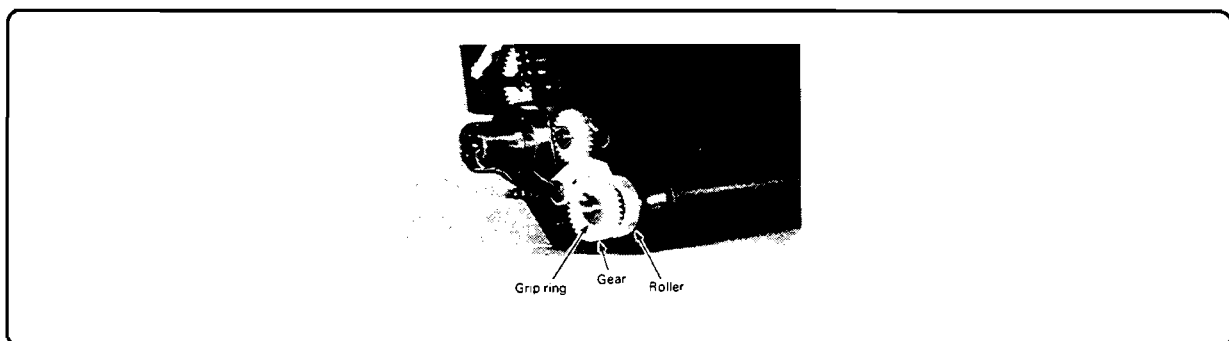

Figure 6-63. Developer Gear and Roller Removal
7. Remove the rear grip ring and detach the gear and roller (Figure 6-63).